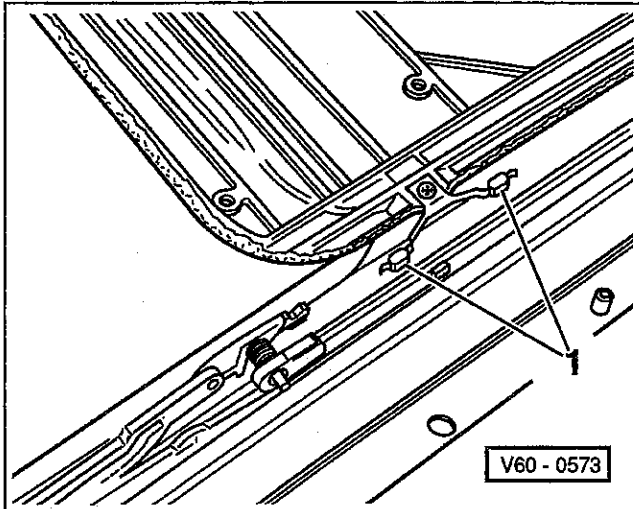

Fig. 11. Remove screw that mounts slide (1) (remove from one side only).
2. Remove screw that mounts slide to headliner (one side only). Pull slide out of carrier unit. See Fig. 11.
6. Insert headliner slide in guide channel. See Fig. 11.